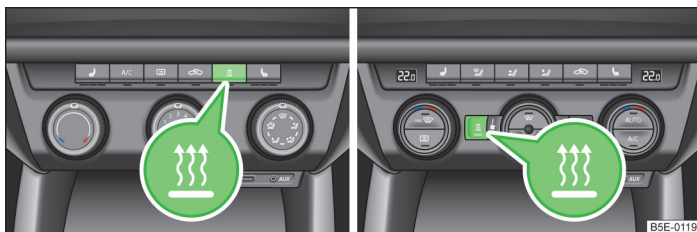

Fig. 110 Button for switching on/off the system directly on the operating part of the air conditioning/Climatronic
- using the button on the operating part of the manual air conditioning/Climatronic. The warning light in the button lights up Fig. 110;
- using the button on the operating part of the manual air conditioning/Climatronic. The warning light in the button goes out Fig. 110;